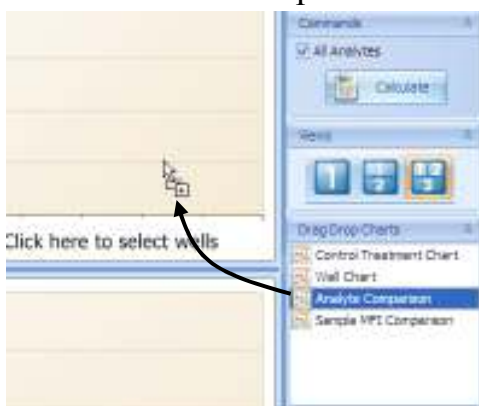

Figure 5.12 Replace the chart by drag & drop
2. Drag & drop selected chart into the chart area you want to replace (Figure 5.12).